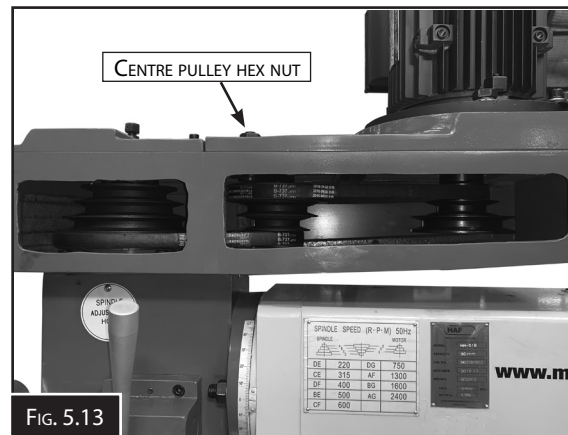

FIG. 5.13
2. Remove vertical spindle V-belt covers to gain access to vertical V-belts and pulleys (Fig.5.13)
3. Loosen center pulley hex nut.(Fig.5.13)